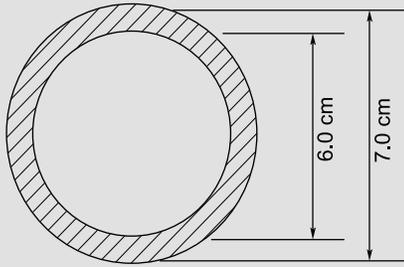

Figure 8.16
**Problem 13.** Determine the polar second moment of area of the propeller shaft cross-section shown in Figure 8.16.